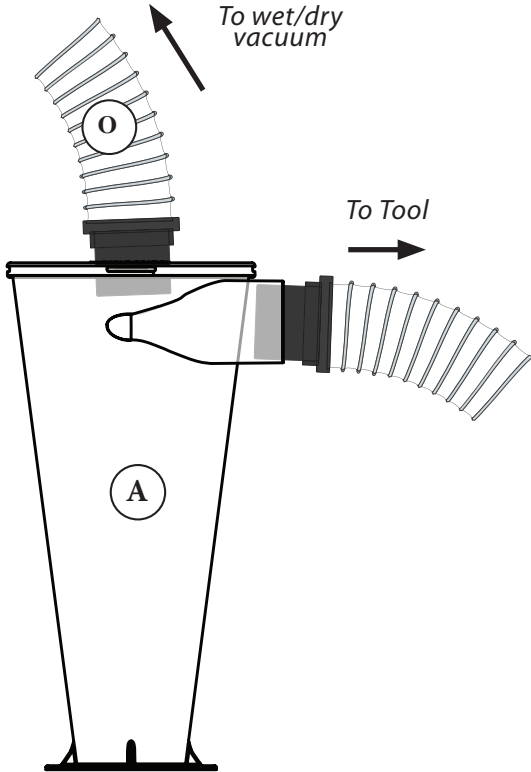

FIG. 9
- 9 Connect the Cyclone's (A) inlet (sideways facing port) to your dust producing tool with your hose or ductwork. Connect the Cyclone's (A) outlet (top port) to your vacuum with the provided Hose (O), your hose, or ductwork [FIG 9]. Both inlet and outlet accept standard 2.5" hose cuffs (OD \approx 2.25").